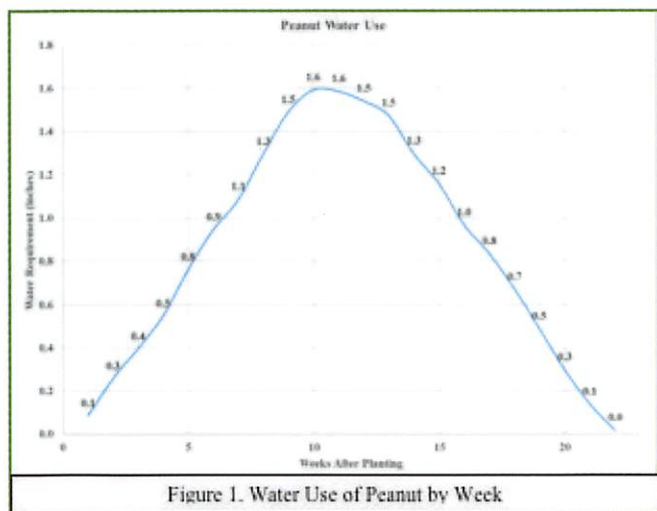

Figure 1. Water Use of Peanut by Week
FIGURE 1. RELATIONSHIP BETWEEN pH AND MANGANESE AVAILABILITY. MAINTAIN SOIL TEST MANGANESE LEVELS ABOVE THE LINE TO HELP AVOID MANGANESE DEFICIENCY. Source: Soil test Handbook for Georgia.
- The UGA Checkbook (Figure 1) is one of the most commonly used methods for irrigation scheduling, but caution is advised as it was developed based on historical averages, thus, is not an exact fit for years that are either wetter or drier than normal as it will over and under predict water need in those years respectively.